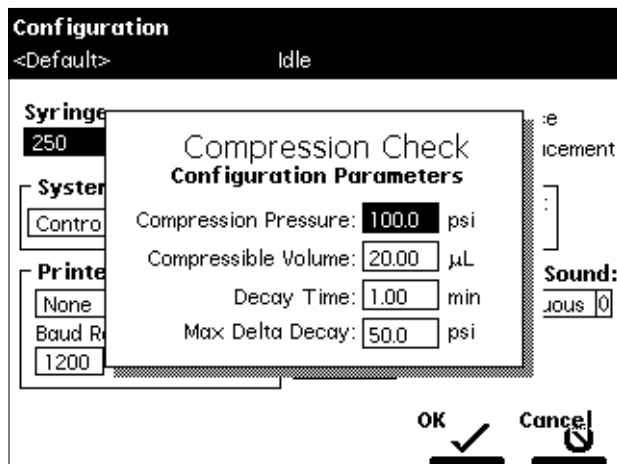

Figure 3-10 Compression Check Dialog Box
2. Press the **Comp Check** screen key. The Compression Check dialog box appears. Figure 3-10 shows default parameter settings.